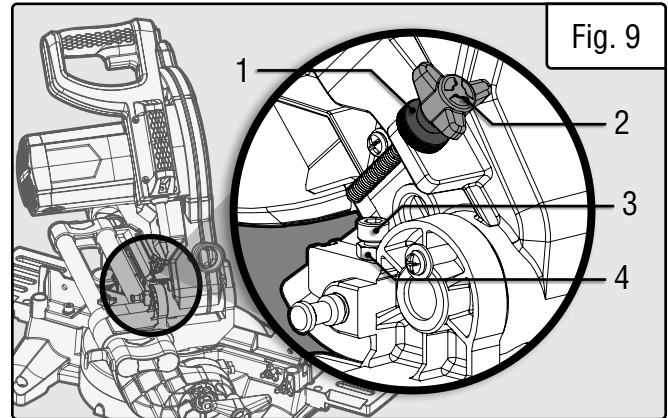

Fig. 9
2. Locate the depth stop settings on the right side of the saw (Fig. 9).
4. Loosen the depth stop nut (Fig. 9 - 1) on the depth stop knob (Fig. 9 - 2). **To increase depth**, turn the depth stop knob counterclockwise. **To decrease depth**, turn the depth stop knob clockwise. Tighten the nut after adjustment.
**⚠ WARNING:** DO NOT adjust the depth stop screw (Fig. 9 - 3 & 4). Only adjust the depth stop nut and knob (Fig. 9 - 1 & 2). The depth stop screw is used to prevent the blade from cutting the table during normal cutting. DO NOT adjust the depth stop screw.